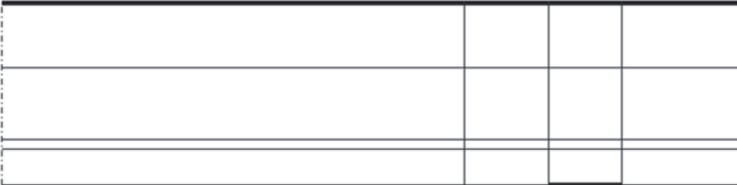

Fig. 9.73 Bold lines represent the surfaces of moisture diffusion
- *Pick Menu* appears; pick the exterior lines that are shown in bold in Fig. 9.73; click on **OK** in the *Pick Menu*.
- *Pick Menu* appears; pick the exterior lines shown in Fig. 9.73; click on **OK** in the *Pick Menu*.